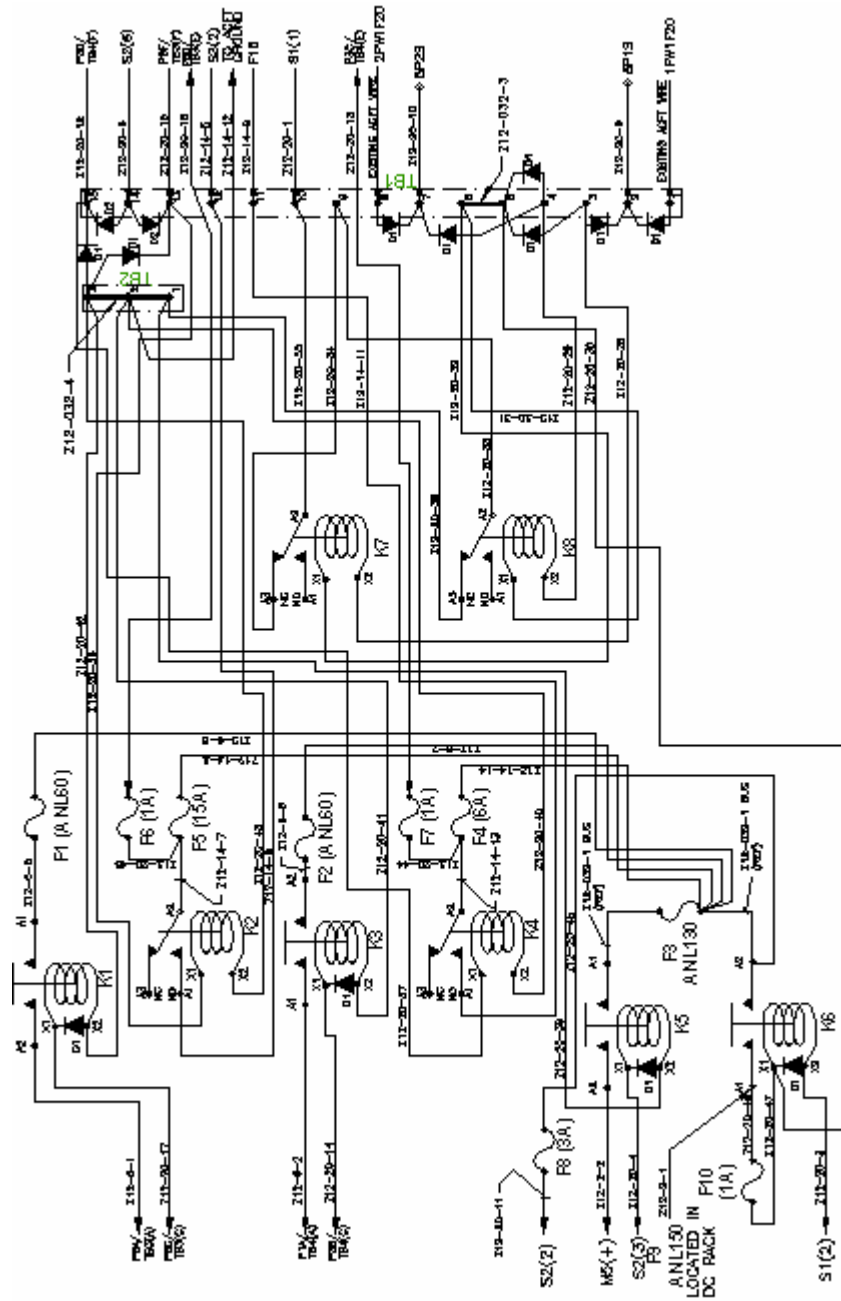

FIG. 2
6.0.4 These trouble shooting steps are for the relay panel only. Determine the function to be selected. Refer to FIG. 2. Isolate the component (s) that are part of the circuit selected.